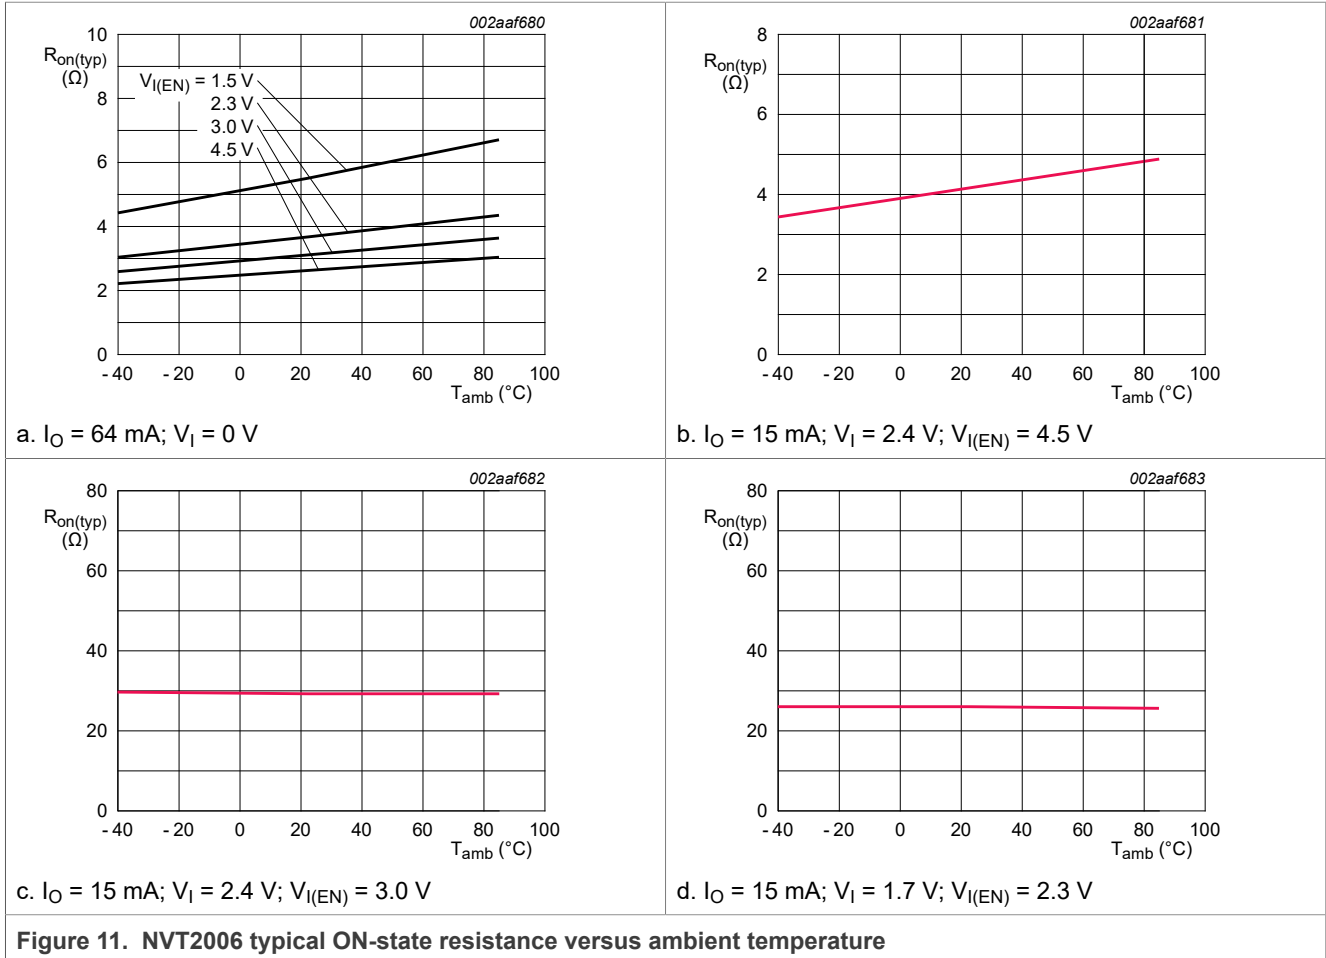

Figure 11. NVT2006 typical ON-state resistance versus ambient temperature
[4] See curves in Figure 11 for typical temperature and VI(EN) behavior.